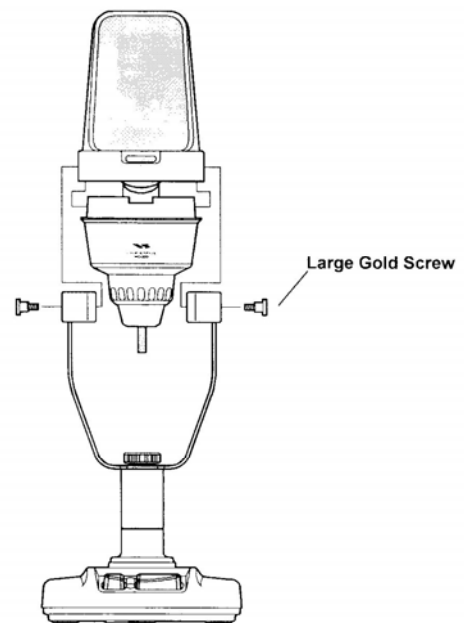

Figure 2
1. Unscrew the two large gold screws with a help of a coin (a U.S. 5¢ coin is ideal), one from each side of the yoke supporting the MD-200A8X housing. Detach the microphone head from the microphone yoke, then remove the top cover from the microphone head (see Figure 2).
1. Unscrew the two large gold screws with a help of a coin, one from each side of the yoke supporting the **MD-200Axx** housing. Detach the microphone head from the microphone yoke, then remove the top cover from the microphone head (see Figure 2).